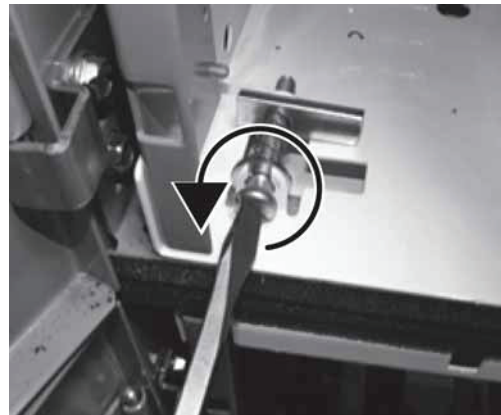

Figure 4 - Disengaging latch
Rotate the latch until it disengages from the separator angle (See Figure 4).
- 3.6.4. Engage locking latch at lower left of the unit to the separator angle and tighten it using a flat-head screwdriver (latch is shown above in Figure 4 on page 4).